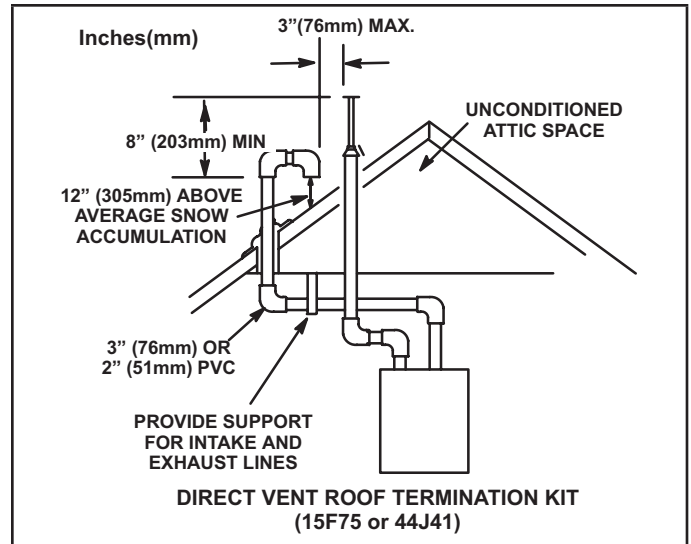
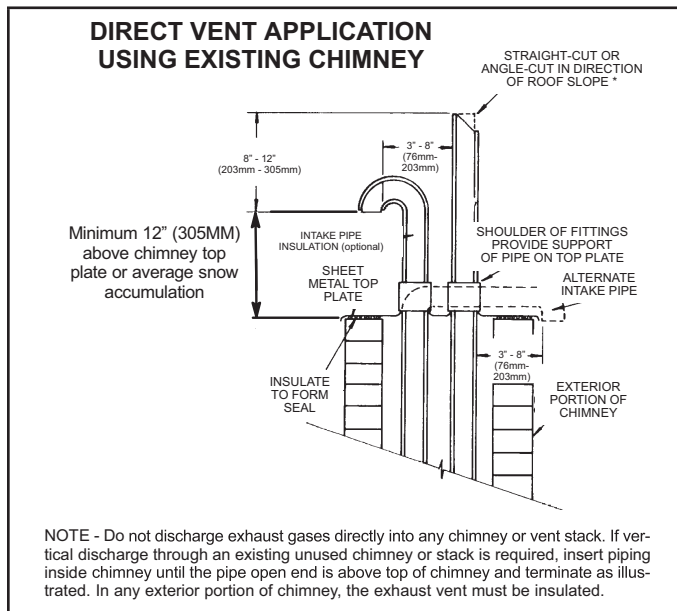

FIGURE 34
FIGURE 41
Intake and exhaust pipes may be routed either horizontally through an outside wall or vertically through the roof. In attic or closet installations, vertical termination through the roof is preferred. FIGURE 34 through FIGURE 41 show typical terminations.
- 3 - On roof terminations, the intake piping should terminate straight down using two 90° elbows (See FIGURE 34).